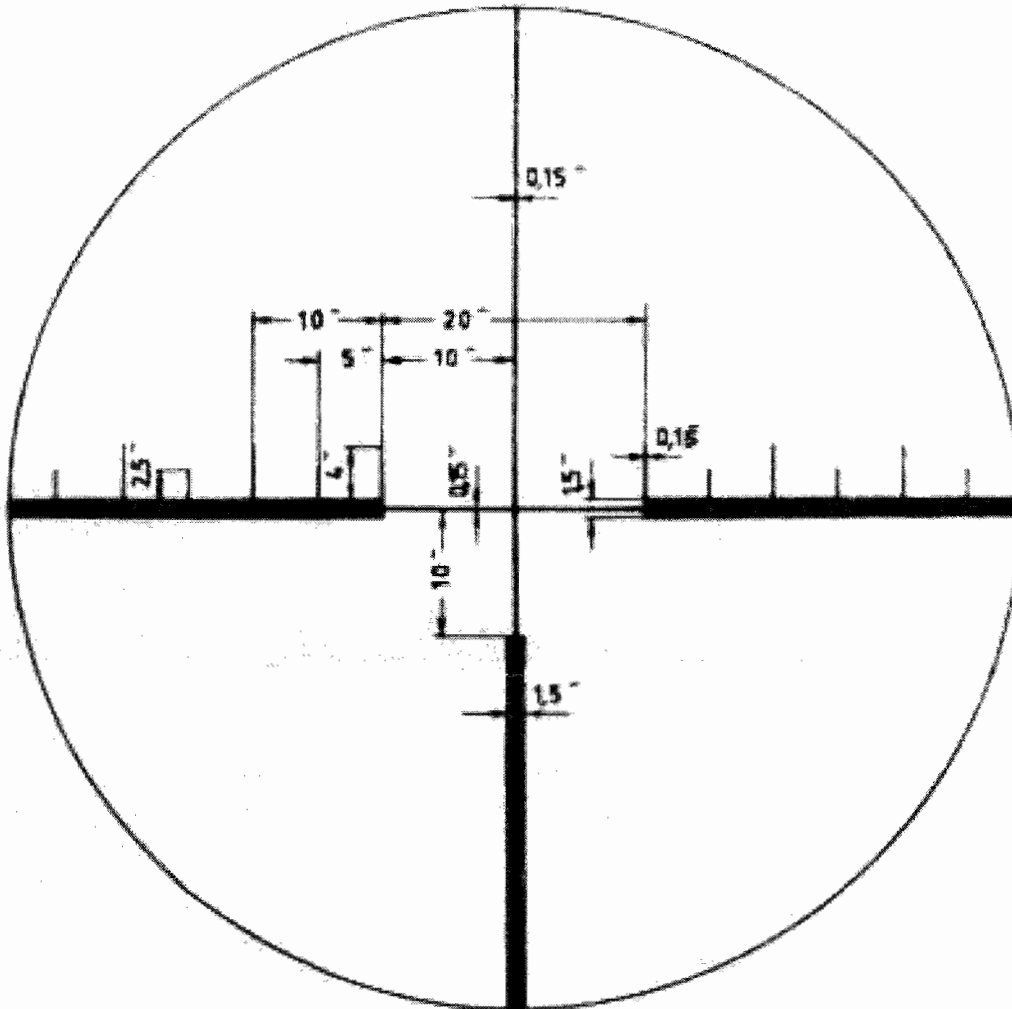

Fig. 3
- 2.1.2. The reticle is designed as shown in Fig. 3, i.e. crosshair with horizontal graduation.